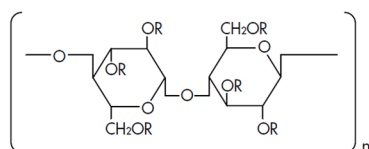

Fig. 2 Structural Formula of Hypromellose Acetate Succinate
Hypromellose acetate succinate is a pharmaceutical excipient used for enteric coatings. It is also used as a carrier for solid dispersions to facilitate miscibility and bioavailability of poorly soluble API. Official compendia such as Japanese Pharmacopoeia (JP) and US National Formulary (NF) describe spectrophotometric methods using FTIR-ATR methods for identification testing. Fig. 2 shows the structural formula of hypromellose acetate succinate.